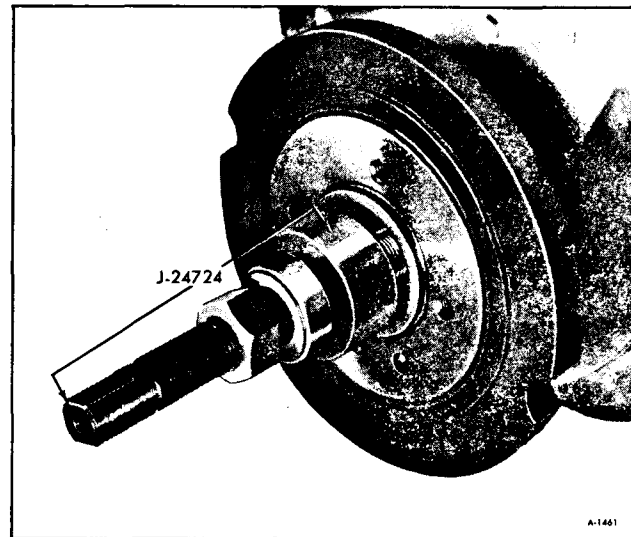

Figure 49—Installing Harmonic Balancer
2. Install harmonic balancer on crankshaft (Figure 49). Use tool J-24724.
4. Install crankshaft pulley and torque four (4) bolts to 10 ft. lbs.